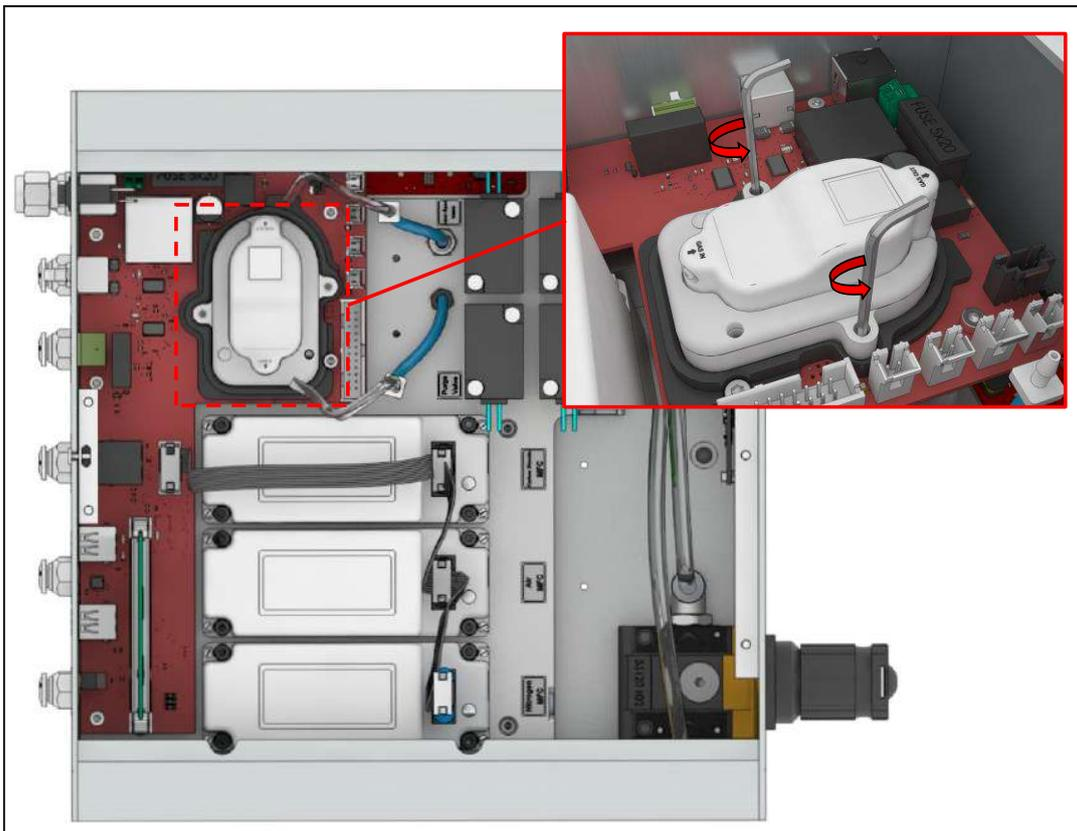

Figure 113. Loosen the screws on the CO2-O2 Module.
4. Loosen the screws by using a hexagonal key (1.5 mm), see Figure 113.